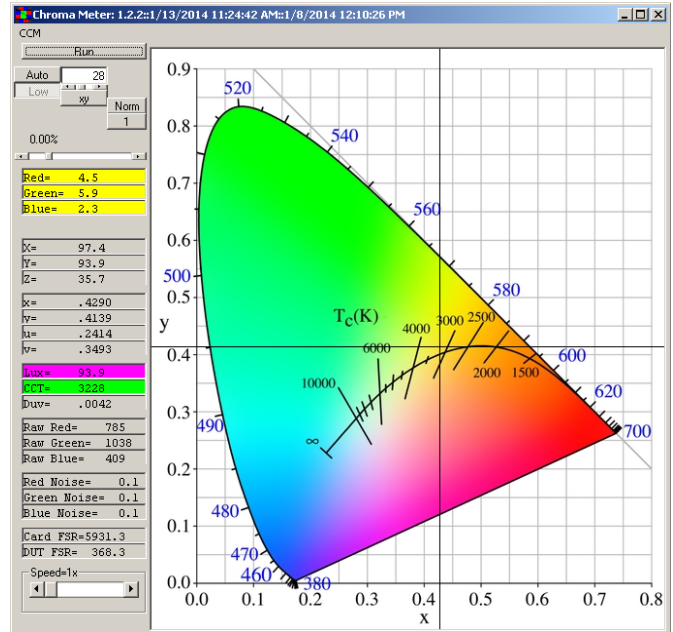
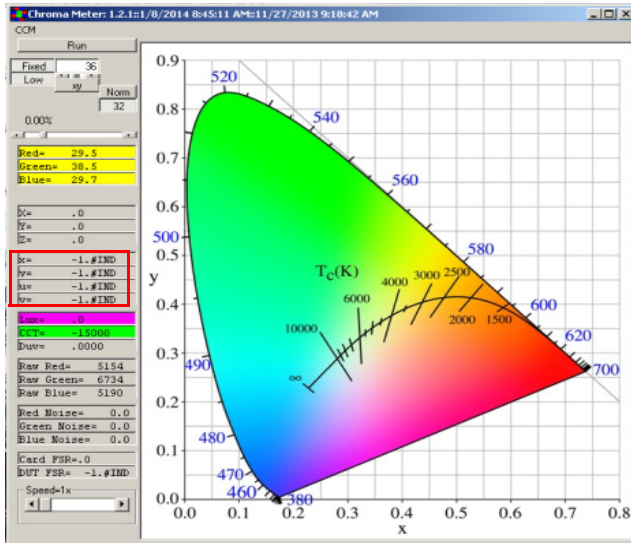

FIGURE 9. CHROMA TEST GUI
FIGURE 12. USB CONNECTED ERROR OR EEPROM FILE DOES NOT LOAD
- C) Once "ChromaMeter" is clicked, the window displayed in Figure 9 should open. If it does not display cross-points in the Chromaticity diagram on the right and numbers on the left panel of GUI, then check your connections. If the problem still persists, then you may want to restart the software. Figure 12 shows the error message that displays if the evaluation board is improperly attached.
- D) Figure 9 shows an example using the ISL29125. Please note that all demonstrations within this document use the ISL29125.
17. Speed: Allows the user to select the number of ADC bits and the speed of the conversion. Details shown in Figure 9.